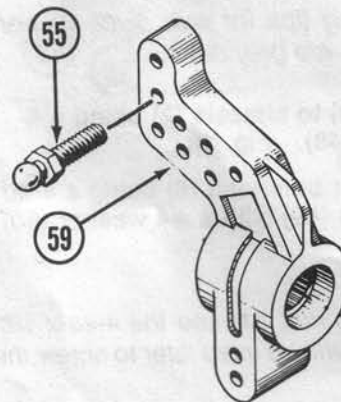

FIG. 21
4. Thread one 3/8" studded ball joint (55) from the front into center inside hole in hub carrier (59). Fig. 21.